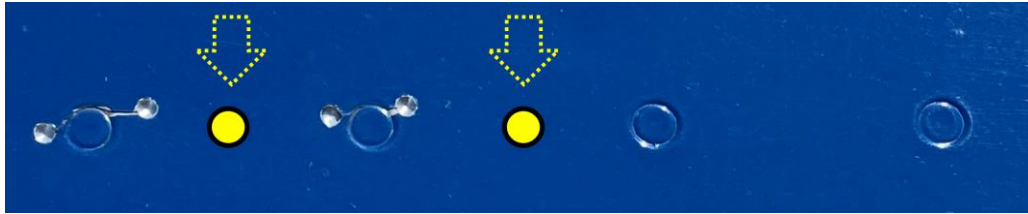

FIGURE 4: LOCATIONS WHERE RIVETS SHOULD BE INSTALLED
Step 4: Install a rivet at the midpoint between existing AN426AD3 rivets, on each side of any rivet that has one or two stop-drilled cracks. See Figure 4.